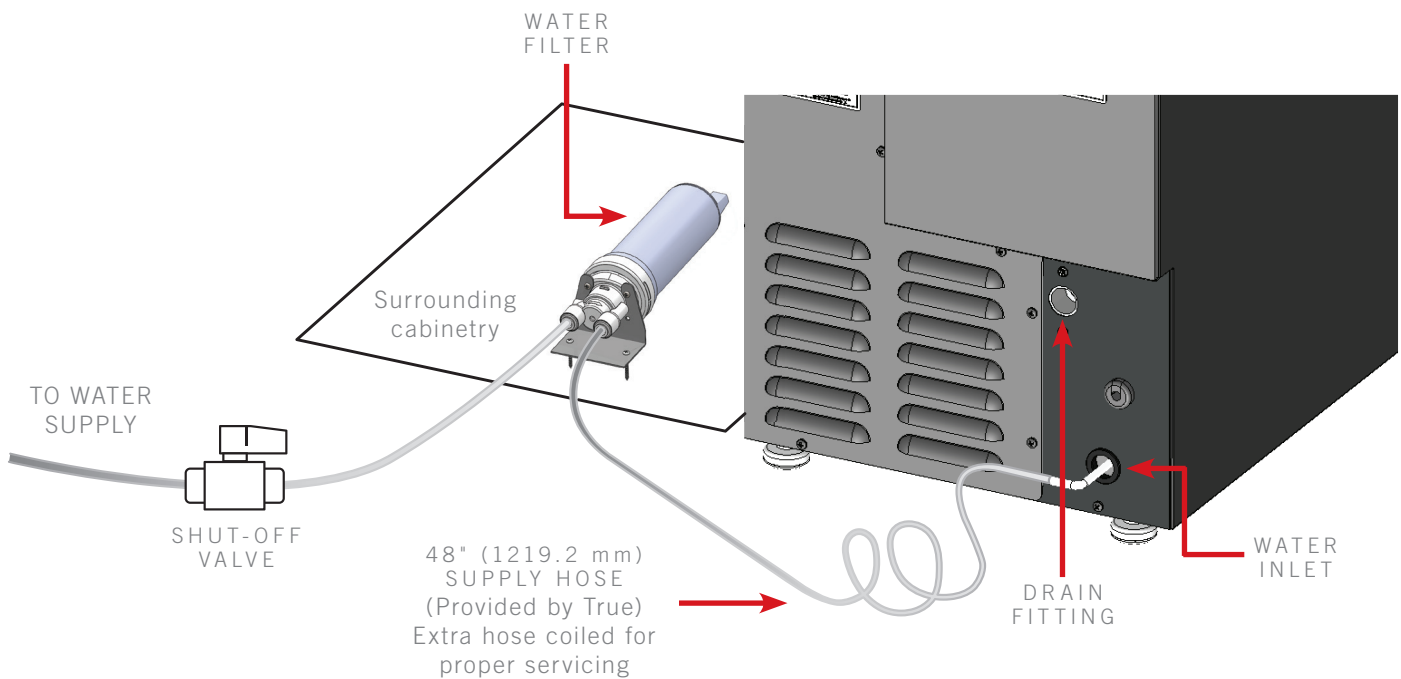

FIG. 1. Example of correct water supply and water filter installation.
Drain Connection	1/2" O.D. Female NPT Fitting (see fig. 1.)
- The ice maker comes with a 48" (1219.2 mm) of 1/4" O.D. PEX tubing for connecting the water filter to the unit. See fig. 1 for the ice machine's water inlet location.